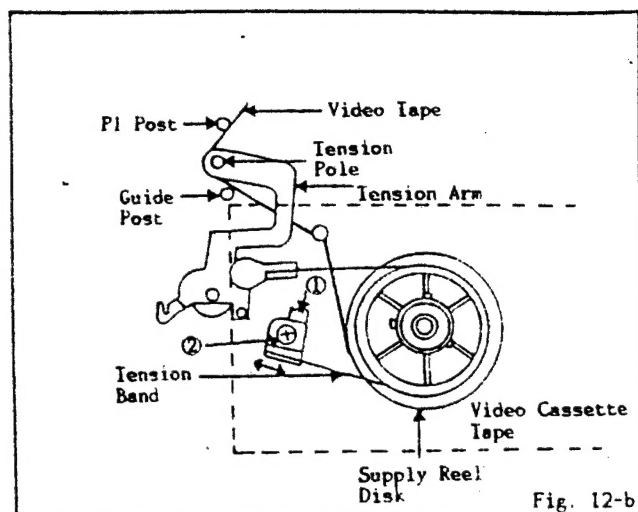

Fig. 12-b
1. In case tension pole is positioned to the left of center of PI Post by less than 4.5mm, move tension band adjustment angle ① to direction of arrow B (Fig. 12-a), then screw ② shall be tightened.
2. In case tension pole is positioned on the left of center of PI post by more than 6.5mm, move tension band adjustment angle ① to direction of arrow A (Fig. 12-b), then screw ② shall be tightened.